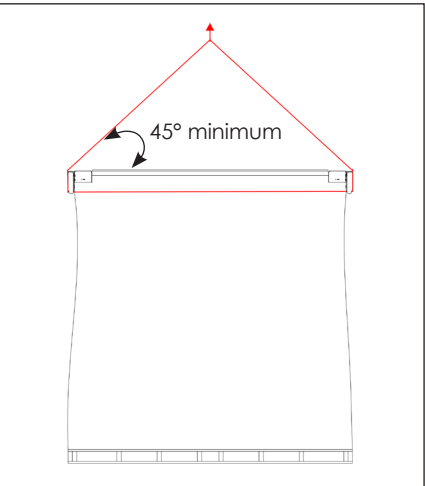

Figure 2: Strap Angle (Side View)
2. Ensure the straps are at a minimum 45° angle or greater if using a crane/straps to lift the pallets. Refer to **Figure 2**.